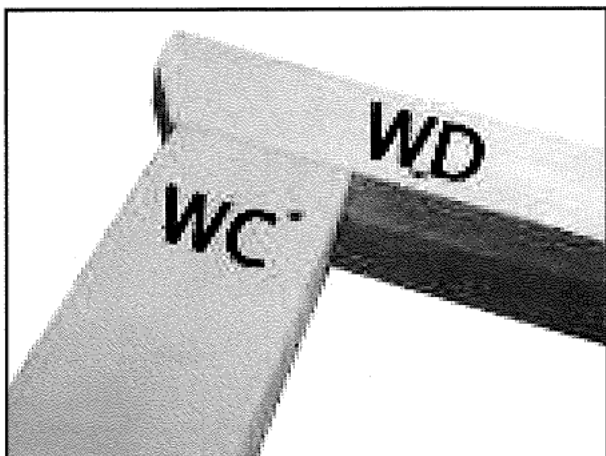

Fig A6
14. Place a **WD** part on top of a **WB** part. The **WD** part is positioned so there is an even overhang (fig A6). Mark out and drill fix as before. But start at 100mm from the end of part **WD**.